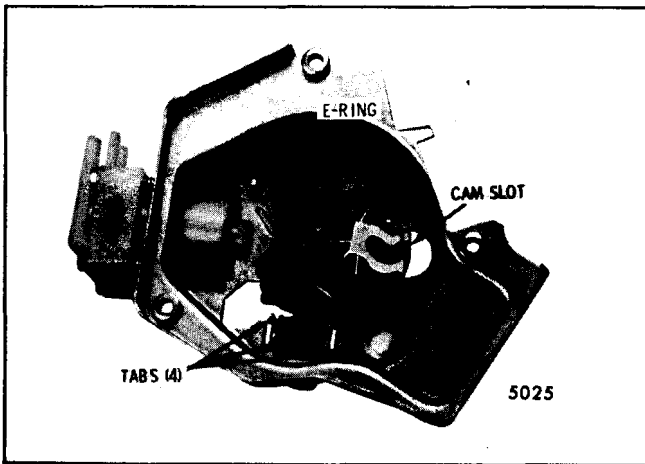

Fig. 2-69-Removing Four Lobe Cam
1. Remove "E" retaining ring and slide cam off shaft (Fig. 2-69).
4. Chisel off the four bent-over tabs that secure the coil mounting bracket to the base (Fig. 2-69). Remove relay coil and terminal board assembly. To mount a replacement relay assembly, hold it securely against the base mounting surface and bend locking tabs over.